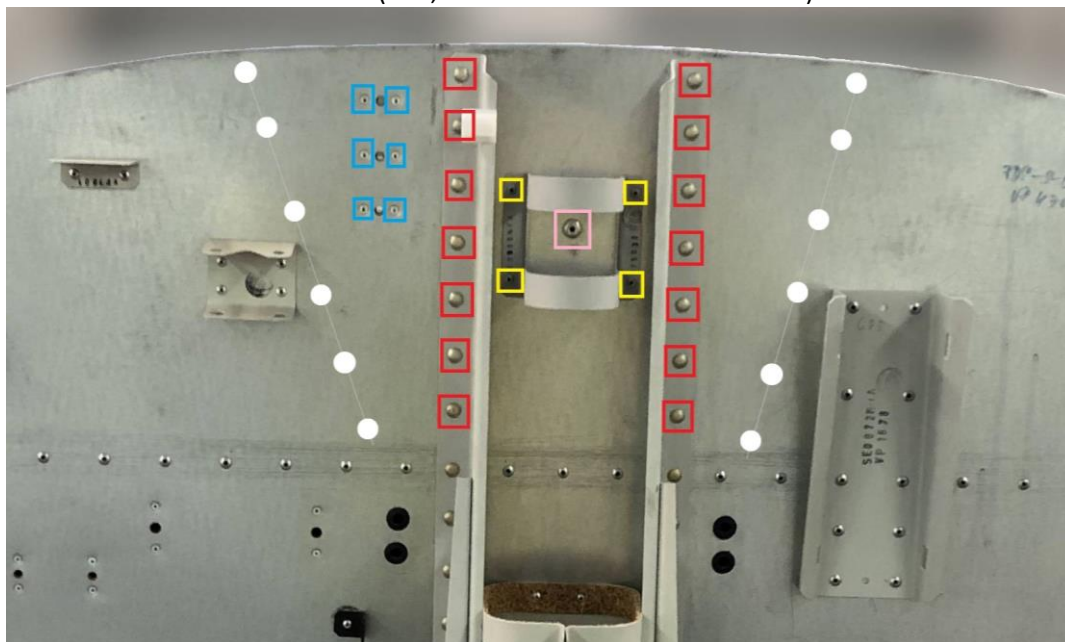

Fig. 5: Rivets from engine side
- 8) See Fig. 3, Fig. 5, Fig. 6 and Fig. 7 for rivets. Rivet 003 is red, 004 is blue, 005 is yellow, 006 is green, 007 is pink, 008 is black and 009 is white. With the pink rivet (007) is riveted two washers (002, from both sides of the firewall).